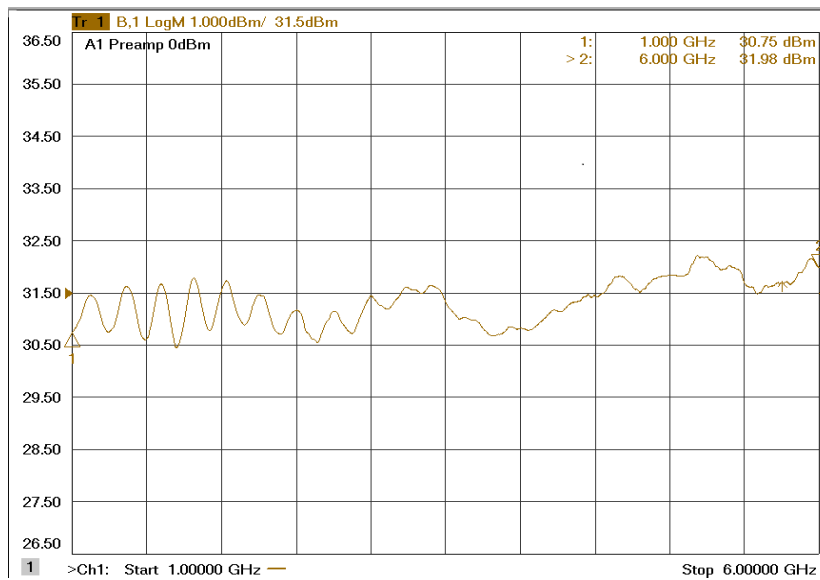

Figure 4-3. Typical Pre-Amp Response
2. Typical Response of the A1 Pre-Amp (see Figure 4-3).